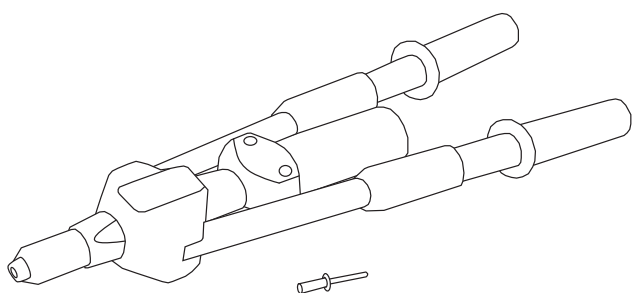
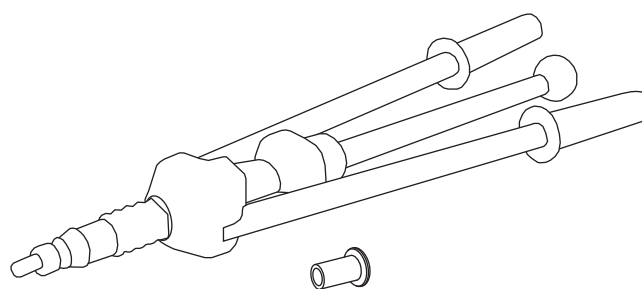

Fig. 24. Manual riveter for rivets POP.
Fig. 25. Manual riveter for rivetable nuts.
- The rivets and nuts require 2 kinds of different tools for them to be placed, although both of them are named rivets (Fig. 24 and Fig 25).